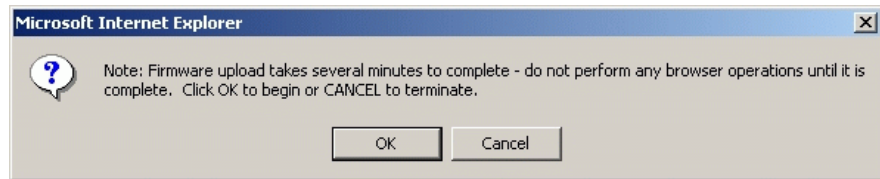

Figure 4-32 Browser-Specific Message Box
4. Click *Send and Load Firmware*. A browser-specific message box displays (Figure 4-32).